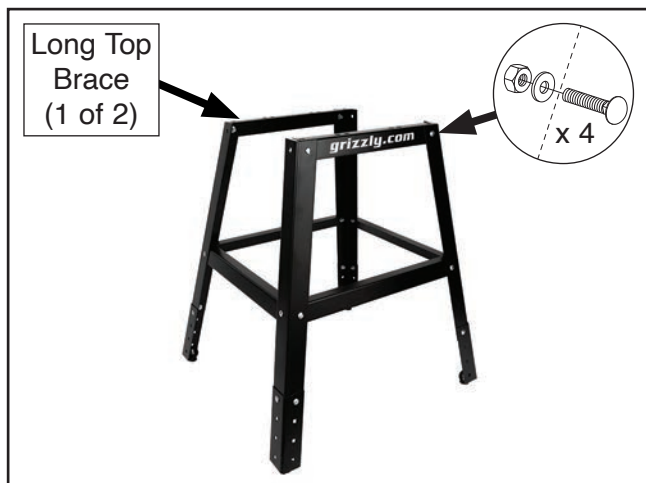

Figure 6. Long top braces attached to legs.
6. Attach (2) long top braces to legs with (4) $\frac{5}{16}$ "-18 x $\frac{1}{2}$ " carriage bolts, $\frac{5}{16}$ " flat washers, and $\frac{5}{16}$ "-18 hex nuts, as shown in **Figure 6**.